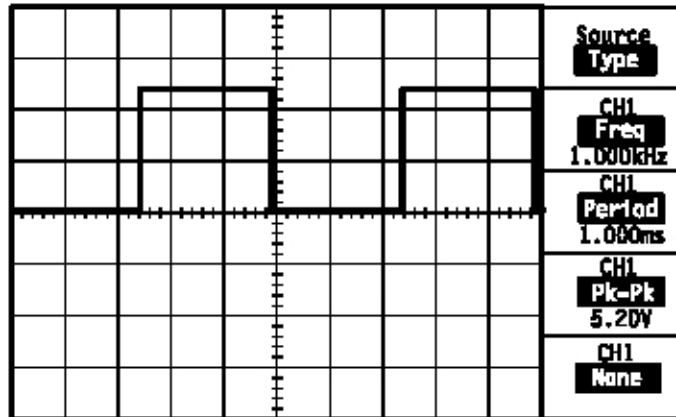

Figure 10. Measure Function Menu
2. Adjust the **Volts/Div** knob to set the waveform amplitude to five divisions, peak to peak, as shown in Figure 10 below.